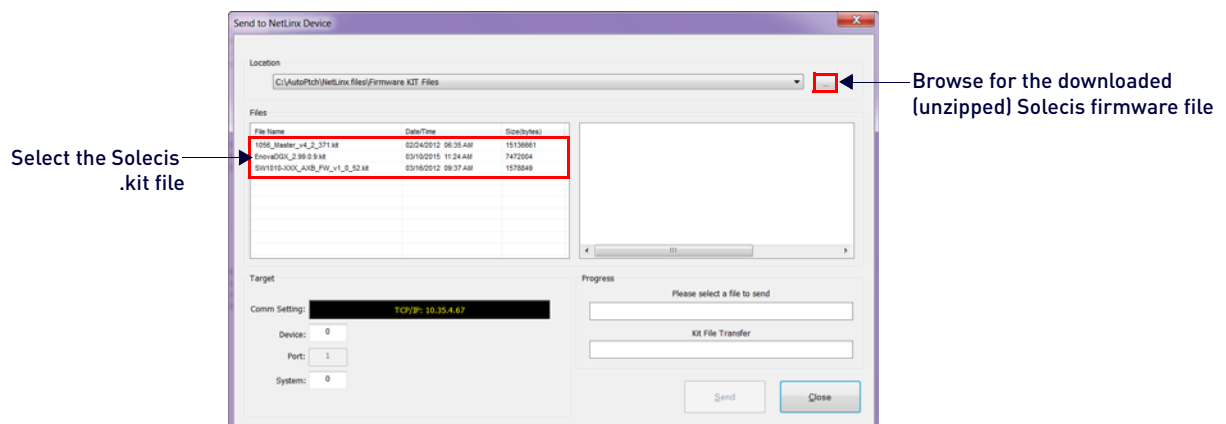

FIG. 141 NetLinx Studio - Send to NetLinx Device dialog
4. Select Tools/Firmware Transfers/Send to NetLinx Device. The *Send to NetLinx Device* dialog appears (FIG. 141):